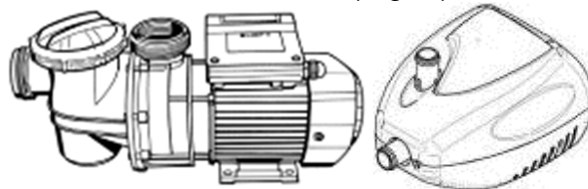

Fig. 1
1. *Pump*: electromechanical device used to move water (Fig. 1).